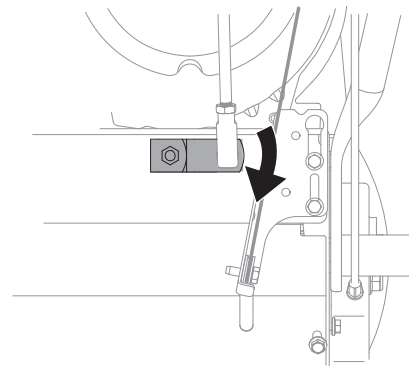

Figure 2-58
- Pivot shift bracket downward as far as it will go. See Figure 2-58.